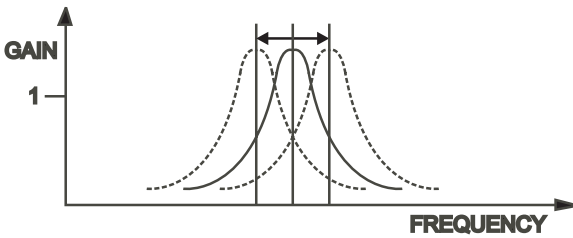

Figure 8 - Resonant Frequency shift
7) The filters’ frequencies can be shifted up and down by a small amount to create an effect similar to phasing. Figure 8 shows a graph that portrays the results of shifting a filter’s center frequency. In the Bass MuRF this can be